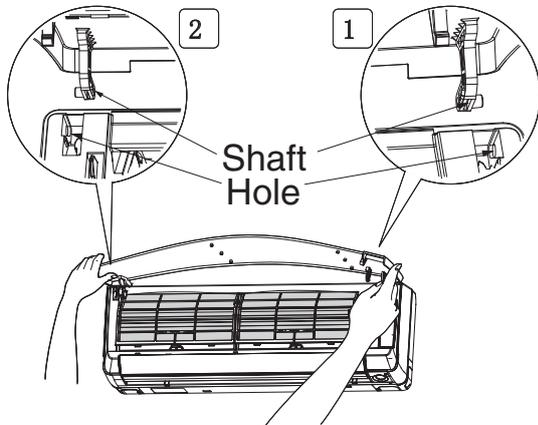
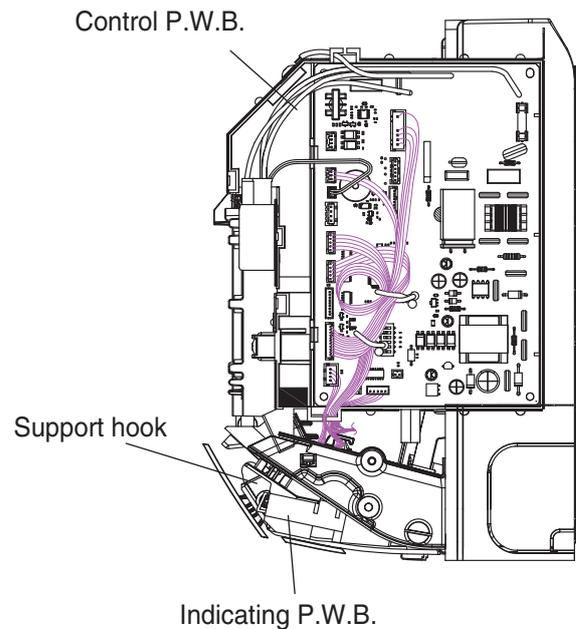

Fig. 1
Fig. 3
- (1)The total hours of air conditioning operation is more than 42 hours(SLEEP、ON TIMER operation will take 84 hours) ,And air conditioner is operated for more than 30 minutes, Meanwhile, the outdoor temperature and indoor humidity are suitable for the Frost Wash(Area A、B in Fig.3、4),Frost Wash (auto) start;
- (2)Within 2 hours before the ON TIMER designated time,Frost wash(auto) cannot be operate;
- (3)ONCE TIMER (ON/OFF TIMER) operation cannot be set ,when Frost wash(auto) is running;
- (4)When the Frost Wash is stopped during Frost Wash operation, the unit automatically restart Frost Wash at the next operation stop.
- (5)Before the Frost period start,the outdoor temperature $\geq 16^{\circ}\text{C}$. Or before the defrosting period finish,the heat exchanger temperature $\geq 0^{\circ}\text{C}$. The Heating period will not running. Fan period 1~ Fan period 2 all turn to Fan operation
- (6)In frost period ,The maximum time is 10 minutes after the heat exchanger temperature $\leq -10^{\circ}\text{C}$
- (7)Heating period will finish after the heat exchanger temperature $\geq 35^{\circ}\text{C}$,remanent time turn to Fan period 2,the total time unchanged
- (8)Fan period 1~ Fan period 2 will not running,when last operation was HEATING;
- (9)When device operat Frost wash during ON condition,the device will stop and have blance time(3 minutes)
- (10)Before the Frost period start,OH temperature $\geq 60^{\circ}\text{C}$,Original blance period time will add 3 minutes
- ※1 According to room humidity, the Frost period time becomes as it is shown in Fig.1.